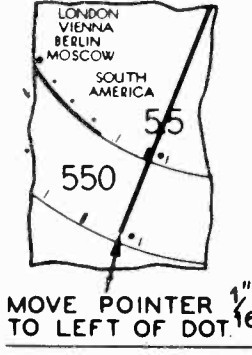

Fig. 5—Dial Calibration Model 38-22
**EQUIPMENT REQUIRED**: (1) Signal Generator, using a fundamental frequency covering the tuning range; (2) Signal Generator which has a fundamental frequency range from 115 to 3600 K. C. in the 026 circuit tester for this purpose; (3) Output meter, Philco Model 026 circuit tester incorporates a sensitive output meter and is recommended; (4) Philco Fibre Handle Screw Driver, part No. 27-7059 and Fibre Wrench Part No. 3164; (5) Philco Set Transformer, Part No. 32-2763.
2. Now turn the selector knob (clockwise) until the dial pointer moves 1/4 of an inch from the small black dot (clockwise). See Fig. 5. Leave pointer in this position and loosen coupling set screws.